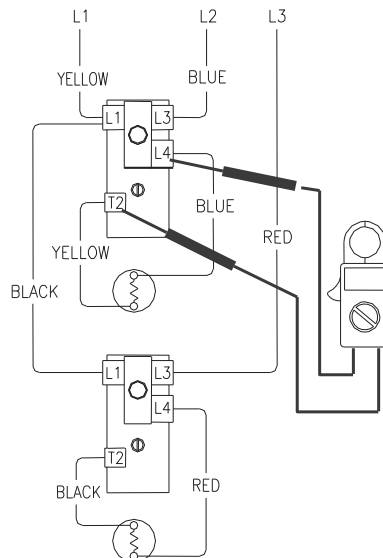

Figure 18
4. Check across terminals L4 and T2 of upper thermostat (see Figure 18).